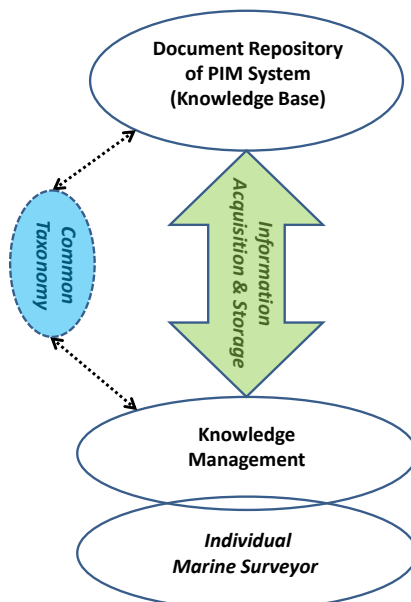

Figure 3: Personal Knowledge Management System
A basic Knowledge Management System can be enabled on a personal computer (PC) using off the shelf software, which implements the core components of the solution proposed in Figure 3 above. The knowledge base would be structured inline with requirements and hosted on local PC disk storage or on external Cloud Storage accessed via the internet.